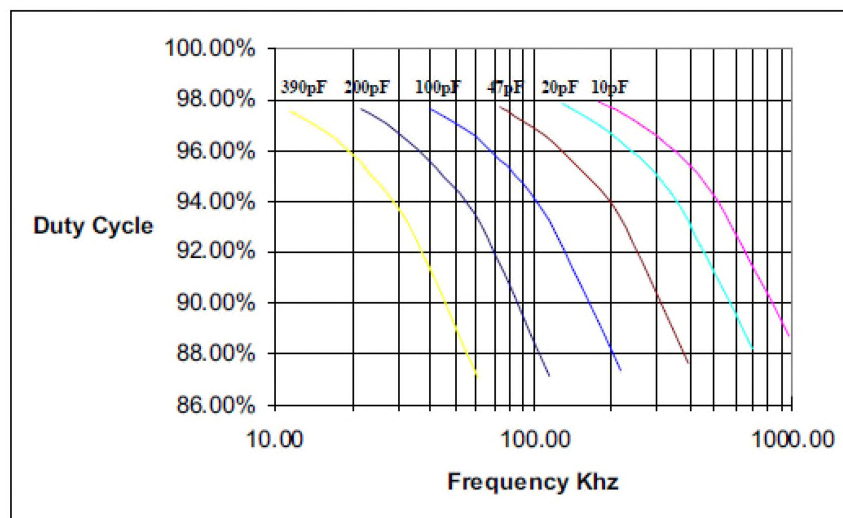

Figure 4: Duty Cycle vs Frequency
- 2) Use Figure 4 to select a capacitor value for Cset that will provide the highest duty cycle (shortest Dead Time) at the frequency required.